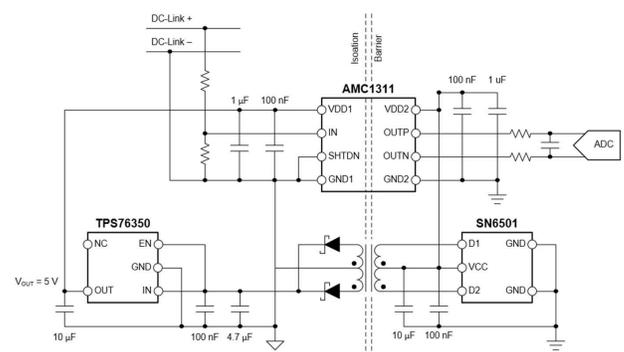

**Figure 2.** The AMC3330 isolated amplifier with an internal DC/DC converter.
**Figure 2** shows the corresponding AMC3330 circuit diagram.